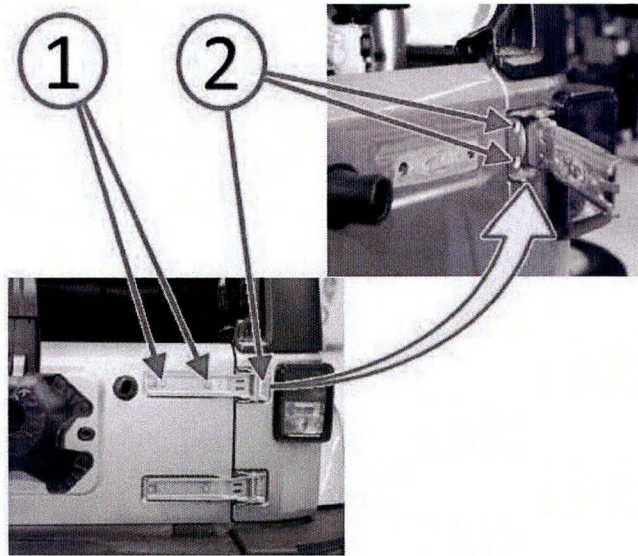
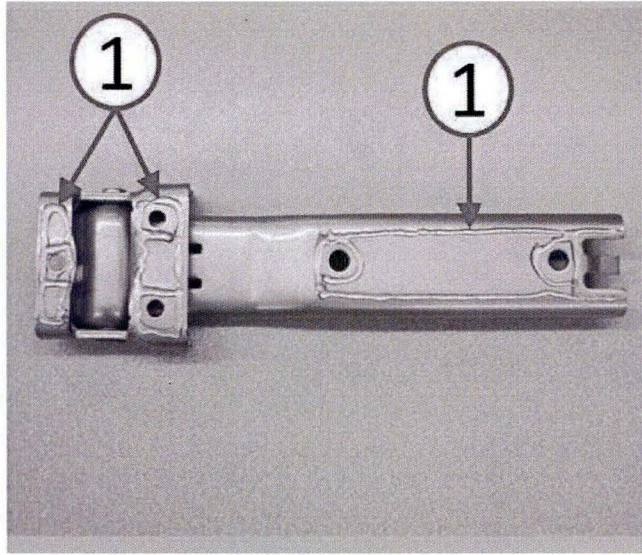

Fig. 2 Tailgate Hinges
Fig. 3 Tailgate Hinge Body Sealer Application
4. Replace both tailgate hinges one at a time. First remove the tailgate side hinge bolts (1) then the body side hinge bolts (2), reverse order for installation (Fig. 2). Apply body sealant per manufacturer's directions to the back surface of the hinge where it makes contact with the vehicle to prevent corrosion (Fig. 3). Refer to the detailed repair procedures available in: DealerConnect> TechCONNECT under: Service Info> 23 - Body> Decklid/Hatch/Liftgate/Tailgate> HINGE> Removal / Installation.